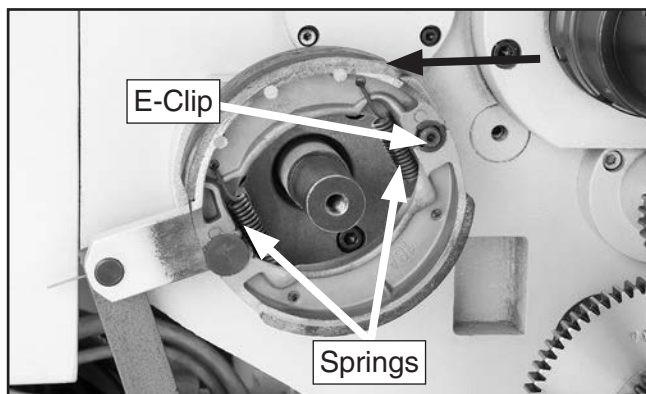

Figure 107. Brake assembly.
5. Step off the brake pedal and remove the pulley. **Figure 107** shows the pulley removed and the brake shoes exposed.
7. Put on safety glasses and remove the E-clip, springs, and brake shoes shown in **Figure 107**.